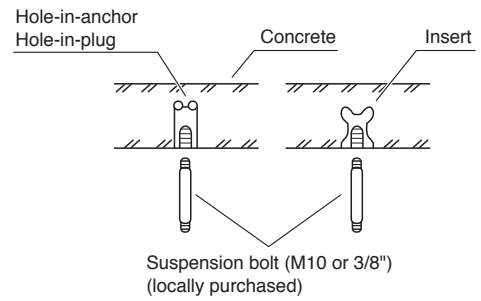

Fig. 6-1
(1) Fix the suspension bolts securely in the ceiling using the method shown in the diagrams, by attaching them to the ceiling support structure, or by any other method that ensures that the unit will be securely and safely suspended. (Fig. 6-1)
(2) Follow the diagram to make the holes in the ceiling.